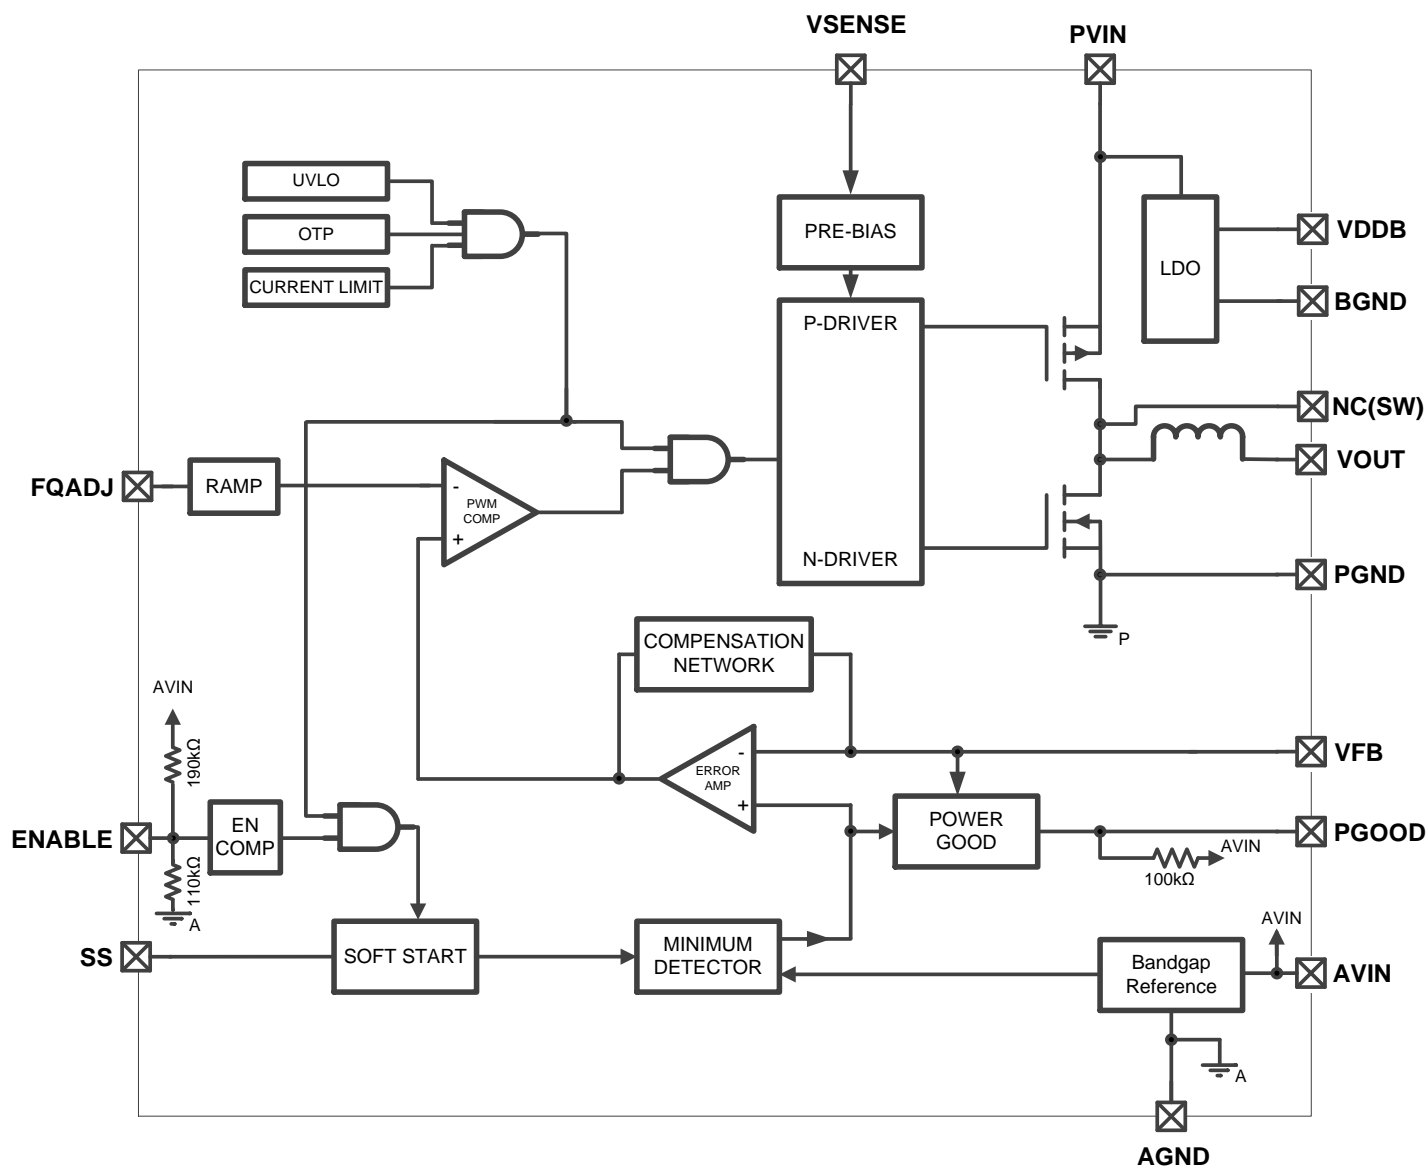

Figure 4: Functional Block Diagram
The SS pin, in conjunction with a small external capacitor between this pin and AGND provides the soft-start function, designed to limit in-rush current during start-up. When the part is enabled, soft-start (SS) current generator charges the SS capacitor in a linear manner. As long as the SS voltage level is smaller than the feedback reference (about 0.6V) the SS voltage is used as feedback reference, ensuring a linear increase of the output voltage. Once the voltage on the SS capacitor reaches 0.6V, the minimum detector Figure 4 will select the bandgap reference as target, while the voltage across the SS capacitor will continue ramping up until it reaches about 1.5V. As the SS voltage slew rate depends on the SS capacitor, so does the output voltage.